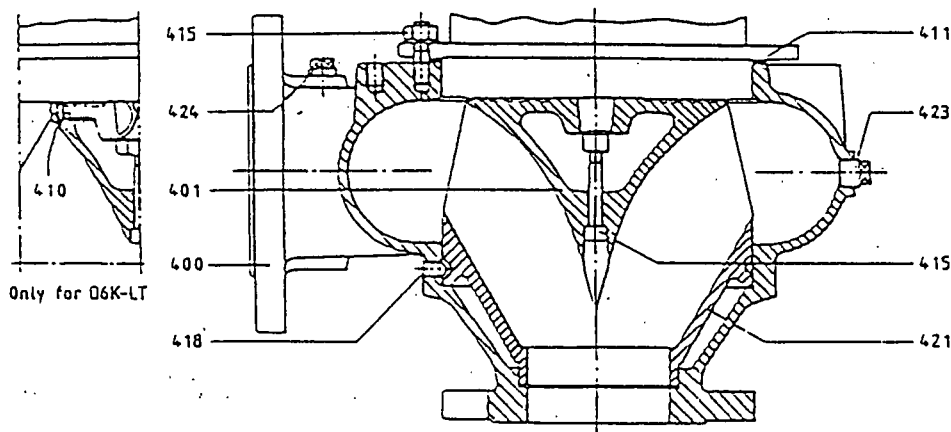

Figure 15 D3K, D4K, E4T
These pumps have a non-adjustable liner (421) held in a fixed position inside a one-piece volute casing. After removal of the three allen-head setscrews (418), this liner can be pressed out of the casing. See Figure 15.
(a) FOR D3K, D4K,E4T (See Figure 15)